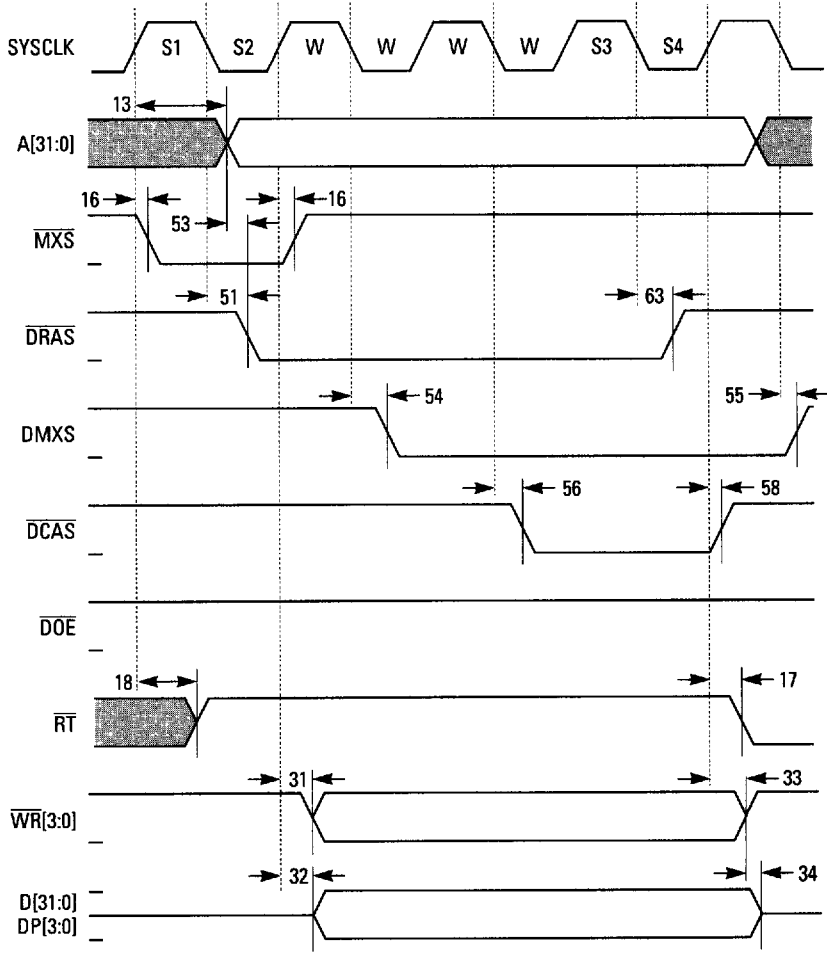

Figure 11
- DRAM Block Fetch Timing (Figure 11)